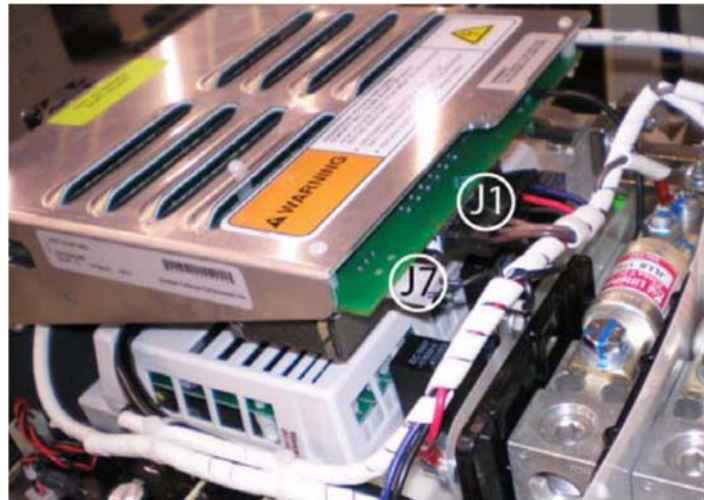

Figure 3 Soft-Start Board
9. Disconnect the J1 and J7 connectors on the Soft-Start Board (refer to Figure 3).